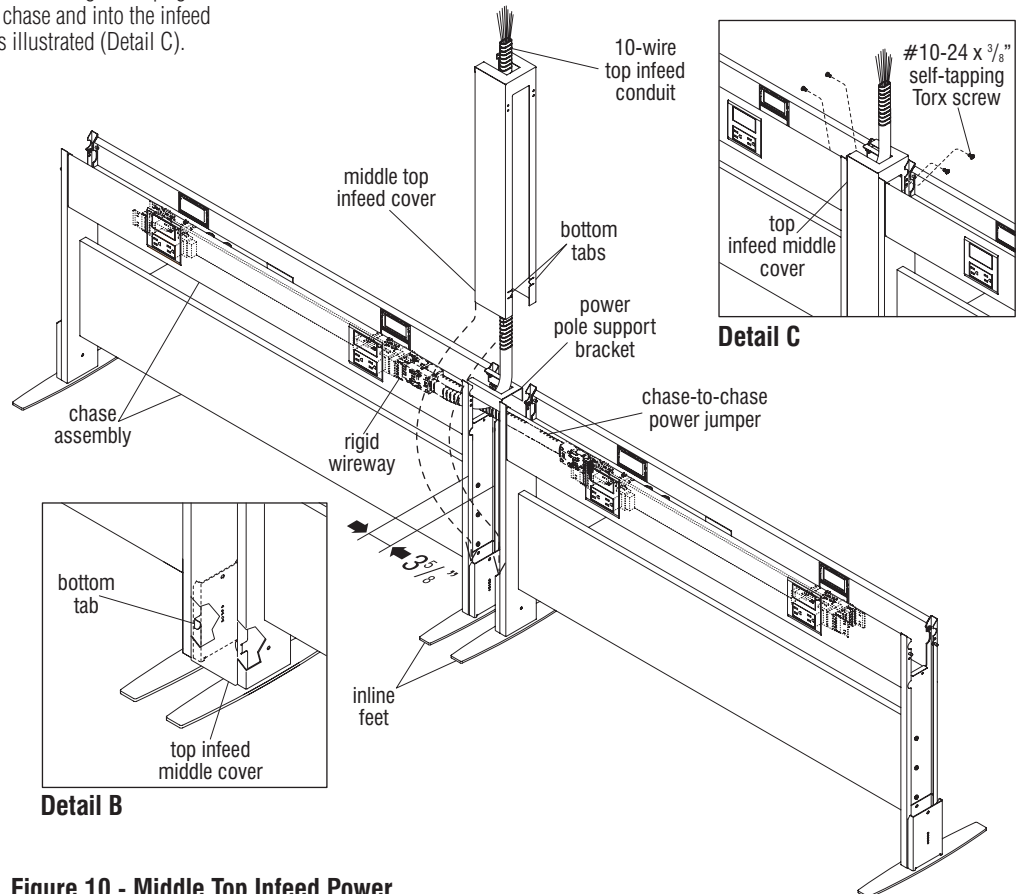

Figure 10 - Middle Top Infeed Power
Important: Per the space-planning layout, a location specified for middle power infeed will be between two inline chase units that each have their own inline foot. The chase units will have a $3\frac{5}{8}$ " spacing between their chase legs when the 10-wire top infeed conduit unit is installed (Figure 10).
3. Move the two inline chase units together to be $3\frac{5}{8}$ " apart between legs as illustrated (Figure 10).
4. Take the middle top infeed cover in hand, orient as illustrated and **bend the four bottom tabs**, two at each side, inward 90°. The bent tabs will help align the cover at the bottom when it is installed (Detail B). Take care to assure that the two chase units are $3\frac{5}{8}$ " apart between chase legs, then route the 10-wire top infeed conduit through the top of the middle top infeed cover, slide the cover down between the chase units and engage the four bent tabs with the tops of the two inline feed. Press the cover down until it meets the top of the feet (Figure 10).